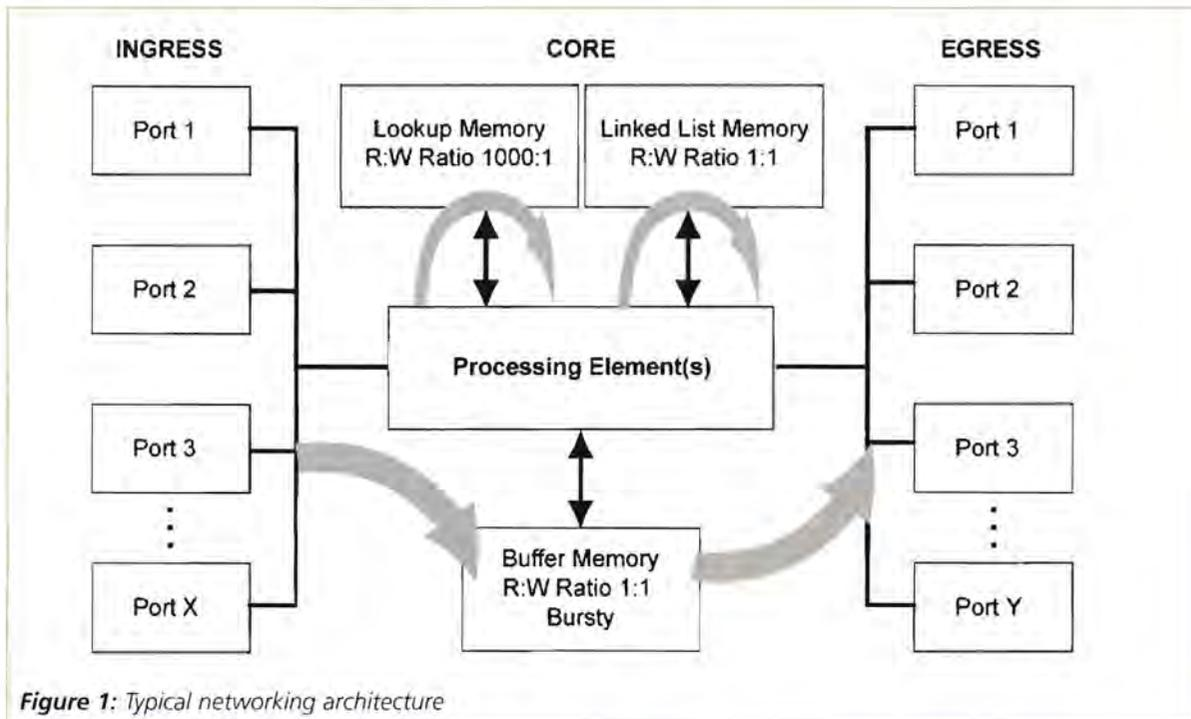

Figure 1: Typical networking architecture
**Figure 1** illustrates a typical networking architecture. At 10Gbps, address lookups with a typical read-write ratio of 1000:1 could easily be handled with Double Data Rate (DDR) SRAM. Link list management, traffic shaping and statistics gathering tasks typically have balanced a 1:1 read-to-write ratio, requiring higher-performance QDR SRAM. On the other hand, larger buffer memories are typically implemented in DDR SDRAM (Synchronous DRAMs). A replacement for DRAM, SDRAM synchronises memory access with a processor clock for faster data transfer. Faster speeds are also achieved because SDRAM allows one block of memory to be accessed while another is being prepared for access. Unlike DRAM, SDRAM relies on static current flow rather than a dynamic stored charge, eliminating the need for continual refreshing.